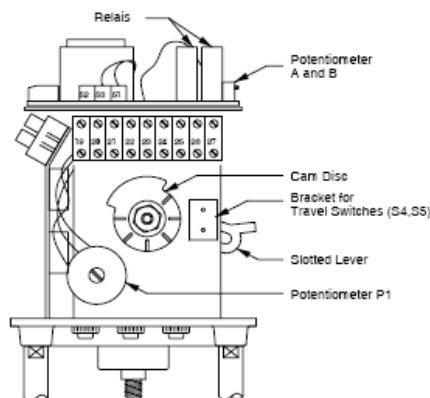

Figure 4
3. Turn potentiometer P1 (see Figure 4 on page 6) counterclockwise until it stops.